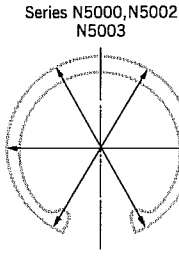

FIG. 1
- For N5000, N5002 and N5003: Release ring and measure free diameter (dimension "D") in three directions through center of ring as shown in Fig. 1 above. Ring is fully operative if: